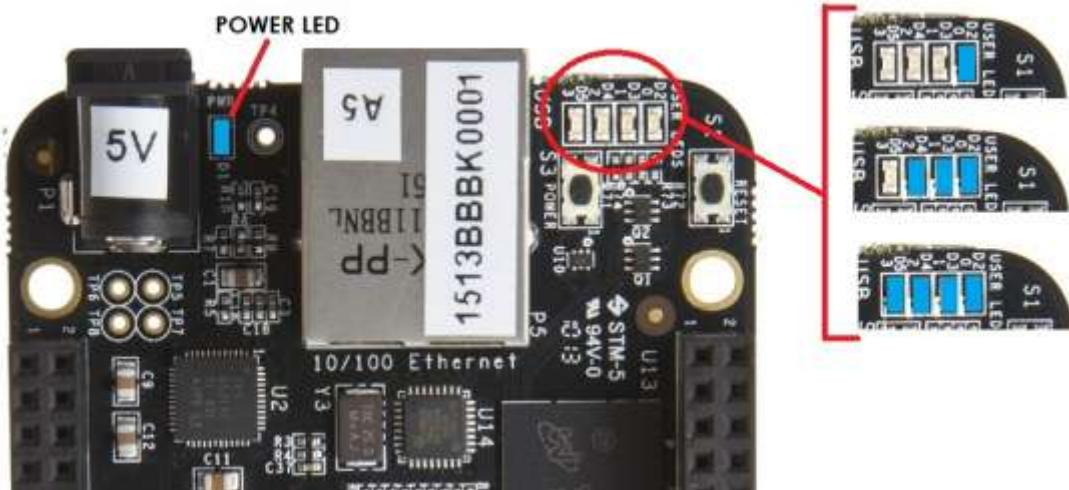

Figure 5. Board Boot Status
4. When the board starts to boot the LEDs will come on in sequence as shown in **Figure 5** below. It will take a few seconds for the status LEDs to come on, so be patient. The LEDs will be flashing in an erratic manner as it boots the Linux kernel.